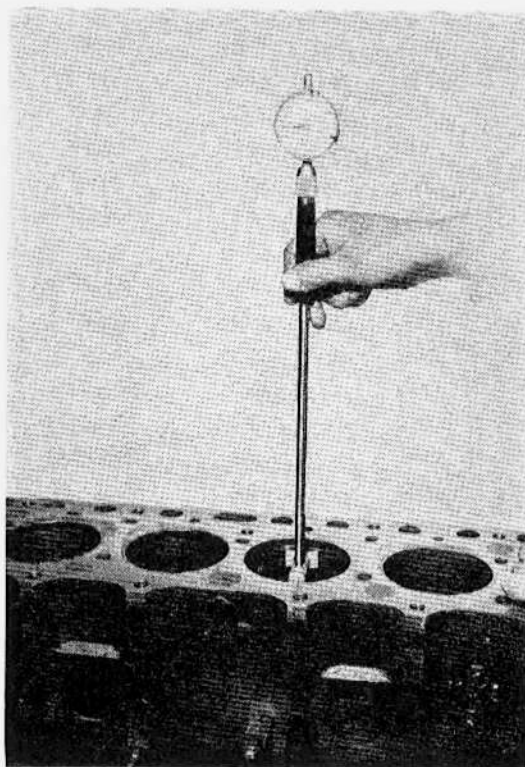

Figure 53 – Checking Cylinder Bore with Inside Dial Gage
(3) Clean all oil passages in the cylinder block by blowing them out with compressed air. It is good practice to blow them out separately. This can be done by plugging the holes in three of the bearings and placing the nozzle of the air gun in the oil inlet of the cylinder bearing oil passages. Continue this until all passages are clean. Blow through the passages to the camshaft bearings.
- (4) Blow out the rocker arm shaft oil line. Blow out oil pump pipes.
- (5) Clean carbon from piston heads, ring grooves and inside of piston head. Clean carbon from cylinder head combustion chambers and valve ports with carbon removing brush. Clean valve guides with valve guide cleaner. Clean valve stems and heads on a buffing wheel.
- (6) Check the cylinder block for cracks in the cylinder walls, water jacket and main bearing webs.
- (7) Check the cylinder walls for taper, out-of-round or excessive ridge at top of ring travel. This should be done with a inside dial gage (Fig. 53). Set the gage so that the thrust pin must be forced in about 6mm to enter gage in cylinder bore. Center gage in cylinder and turn dial to "0". Carefully work gage up and down cylinder to determine taper and turn it to different points around cylinder wall to determine the out-of-round condition.
- (8) Set the gage to the standard cylinder size using a pair of micro-meters. Then, by checking the cylinders, the oversize pistons required and the amount necessary to be removed from the cylinders can be determined.